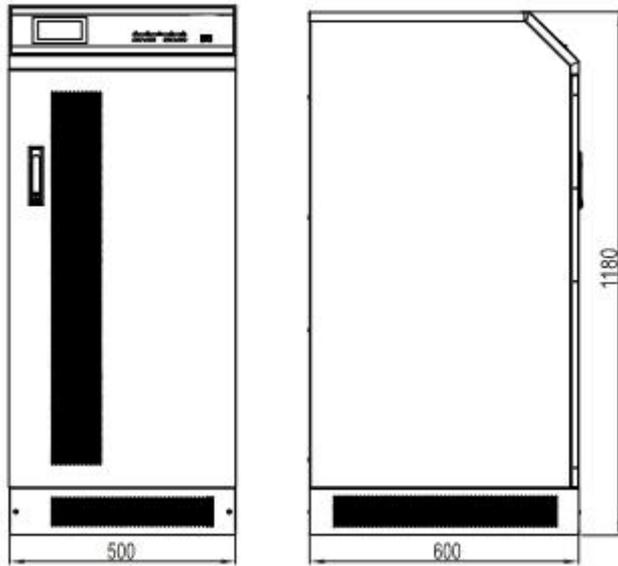
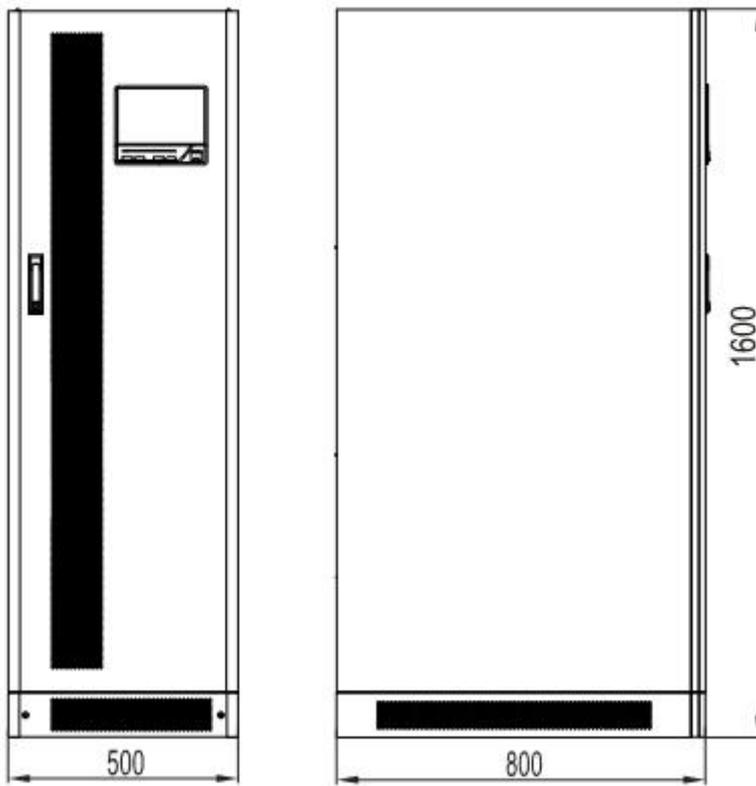
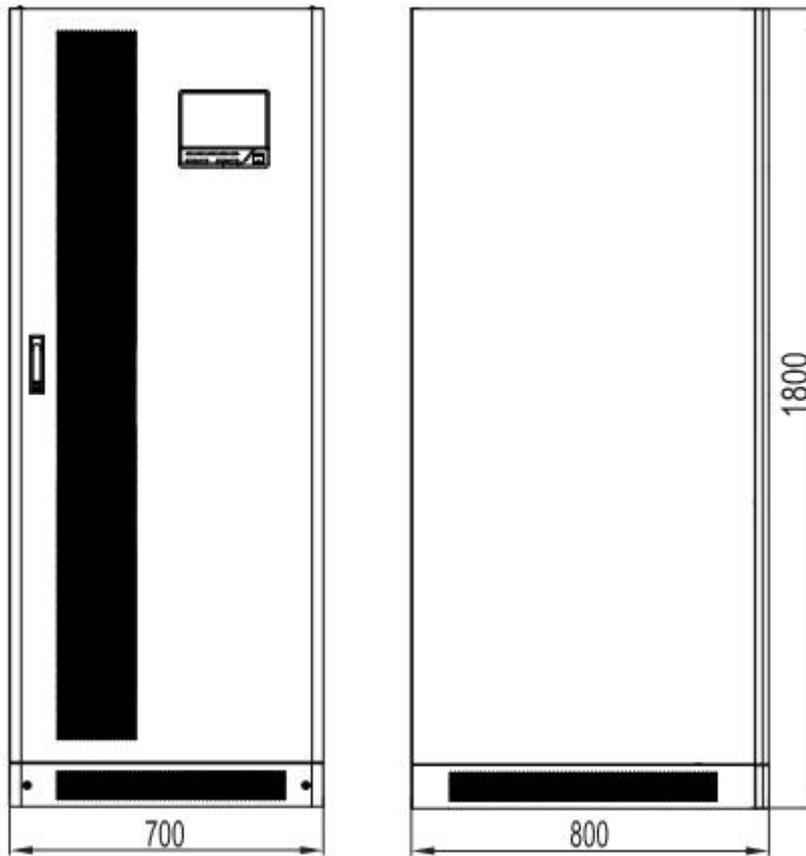

Figure3-9 Size of Three-Phase (10kVA-30kVA) series UPS
Figure3-10 Size of Three-Phase (40kVA-80kVA) series UPS
Figure3-11 Size of Three-Phase (100kVA-160kVA) series UPS
- Step 1 Determine and plan the installation position according to the UPS size (as shown in Figure3-9, Figure3-10 and Figure3-11) and installation clearance requirement (see **3.3.3 Installation Clearance**).